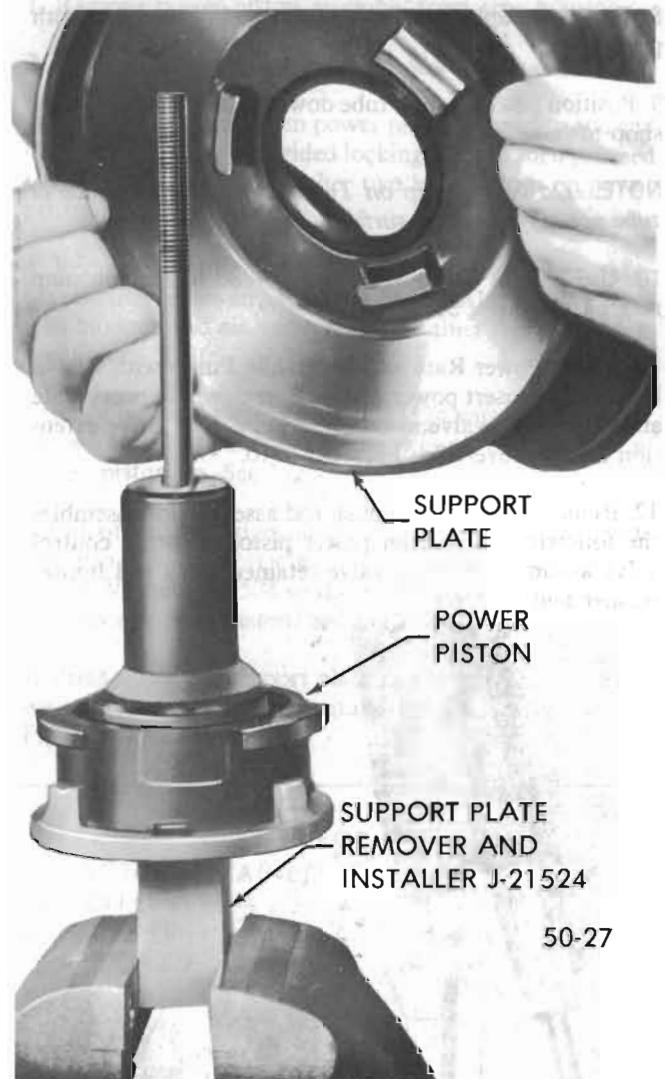

Figure 50-108 Removing Support Plate
7. Press down on support plate and rotate counterclockwise until support plate separates from power piston. See Figure 50-108.